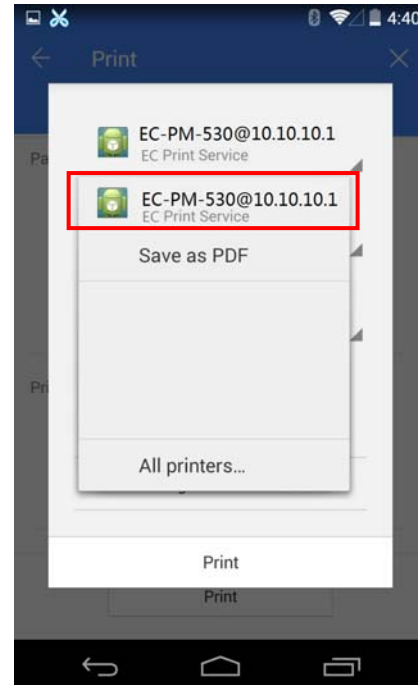

Figure 30
4.6 Select “EC-PM-530@10.10.10.1”, as shown in Figure 30.